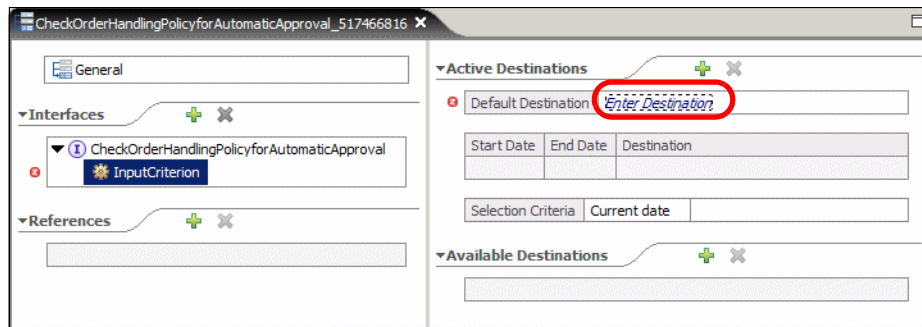

Figure 10-22 Rule group destination
- ▶ Select *InputCriterion* (Figure 10-22).